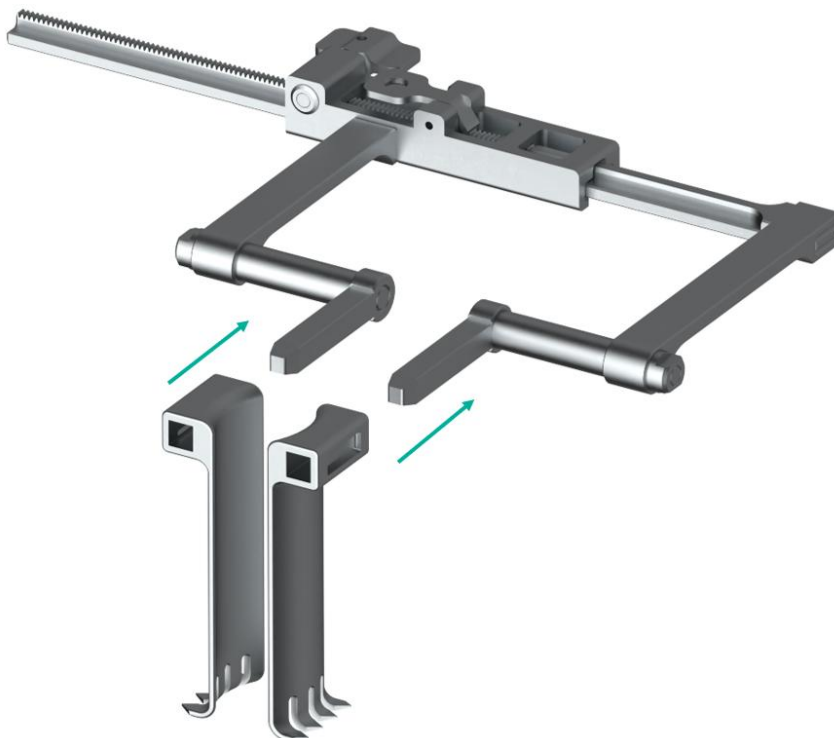

Figure 4: Mounting the blades
- The blades are slid onto the Prima Frame and then secured by an integrated spring to prevent them from sliding downwards (see Figure 4).